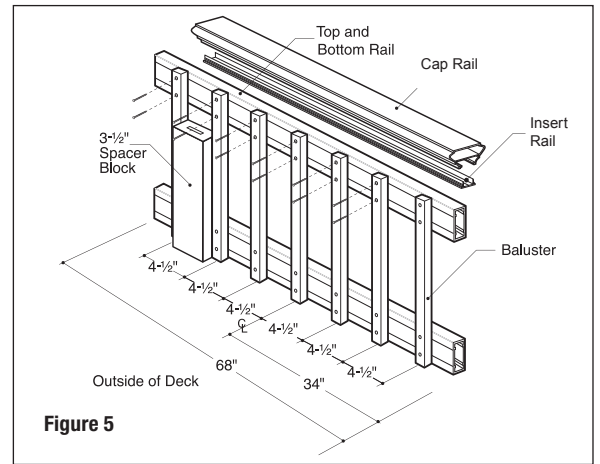

Figure 5
Traditional, Baroque and Arc balusters: Both top and bottom rails will be installed with the pre-drilled holes facing down to prevent water from collecting in the rail. Maximum 4-1/2" on-center and equal spacing for the end spacing. Start by finding the center of the rail. Rail length ÷ 2 = center of rail. Start the first aluminum baluster on-center of the center line. Mark every 4-1/2" from this line to each end. This will leave the end spacing less than 4" on both ends and require 15 aluminum balusters (**Figure 5**). Tip: Use a piece of 2x4 (3-1/2" actual) as a spacer block for the spacing between balusters.
Glass balusters: Both top and bottom rails will be installed with the pre-drilled holes facing down to prevent water from collecting in the rail. 7-1/2" on-center and equal spacing for the end spacing. Start by finding the center of the rail. Rail length ÷ 2 = center of rail. Start the first glass baluster on-center of the center line. Mark every 7-1/2" from the center line to each end. This will leave the end spacing 4" or less on both ends and require nine glass balusters. If installing using connectors, attach connectors to both rails on marked locations. Tip: If face-mounting to rail, use a piece of 2x4 (3-1/2" actual) as a spacer block for the spacing between balusters (**Figure 5**).
Step 12 Traditional, Baroque, Arc balusters; and Face-Mount Glass balusters: Start the first baluster on-center of the center of the rail and work out to each end. Using the baluster as a guide, drill 9/64" holes in the rails at each baluster location. Use a 2x4 as a spacer block to space the next baluster. Working toward the ends, drill and attach each baluster with the screws provided (**Figures 5 & 6**).